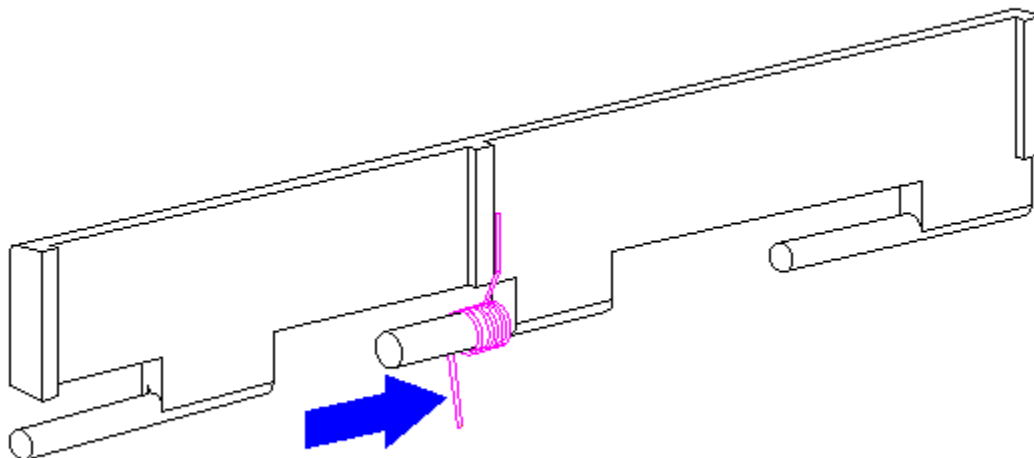

Figure 5-21. Replacing the PC Card Spring
1. Install the PC Card spring on the door post, ensuring that the bent arm of the spring is placed against the rib on the PC Card door (Figure 5-21).